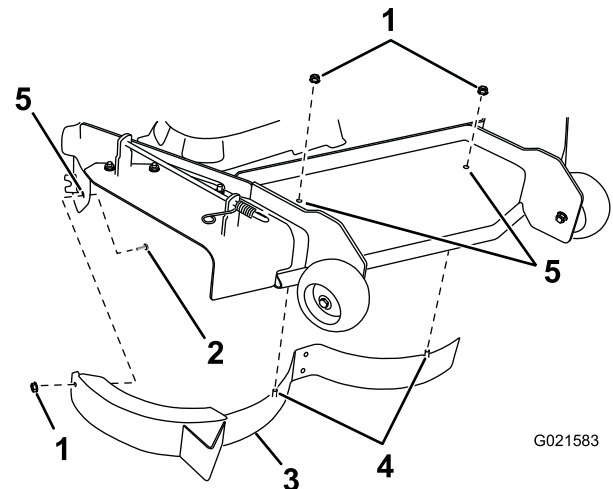

Figure 27
7. Remove the right hand baffle from the mower deck shown in Figure 27. Plug the open holes with nuts and bolts.